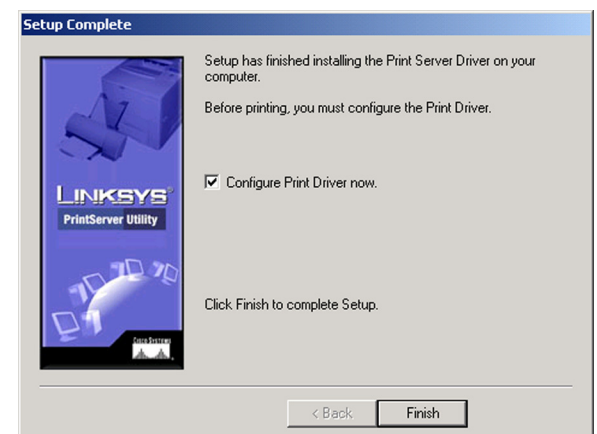

Figure 5-6: Setup Complete
7. When the driver is installed, the Setup Complete screen, Figure 5-6, will appear. The Print Driver must still be configured, so make sure that **Configure Print Driver now** is selected. Click **Finish** to continue.